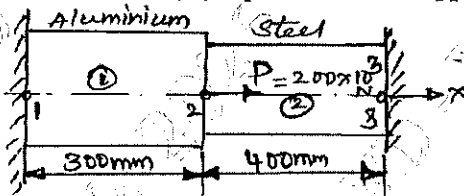

Fig.Q4
- 4 The bar shown in Fig.Q4, an axial load  $P = 200 \times 10^3$  N is applied as shown, using elimination approach for handling boundary conditions. Determine (i) nodal displacements (ii) stress in the elements (iii) reactions at the support.